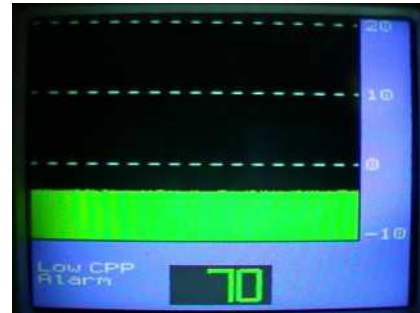

Figure 2-15 Low CPP Alarm
- Press the DOWN button to select the Low CPP ALARM (Figure 2-15).